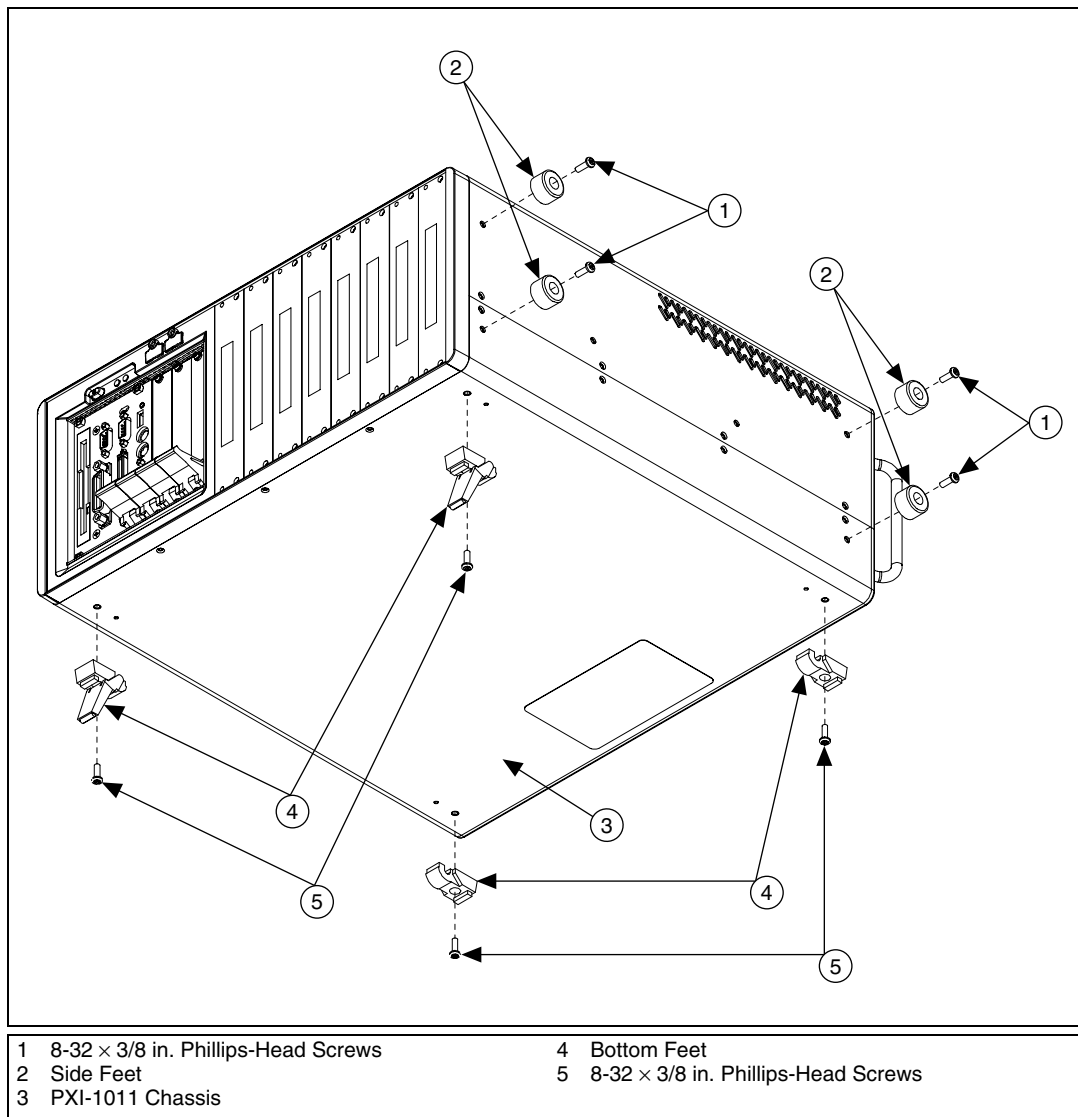

Figure 1. PXI-1011 Chassis Bottom and Side Feet Removal
2. Remove the bottom feet while referring to Figure 1.
3. Remove the side feet while referring to Figure 1.